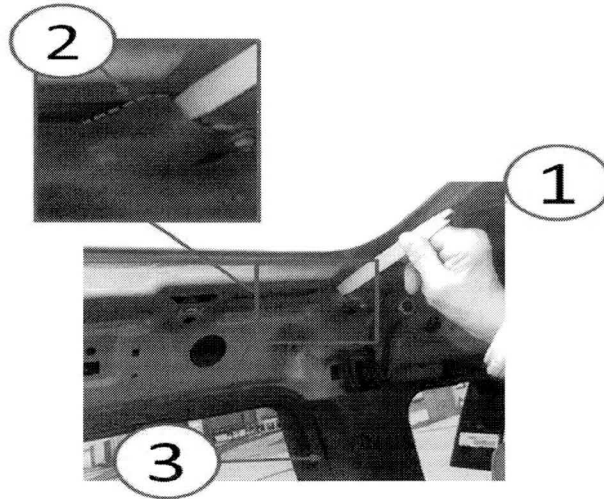

Fig. 4 Dual Pane Sunroof Reinforcement
10. Insert trim stick C-4755 (1) at the location shown in (Fig. 4). Can the metal be easily moved by moving the trim stick left to right?
11. Clean and prepare the sheet metal flange (2) identified in (Fig. 4) for application of structural adhesive per the adhesive manufacturer's recommendations.
12. Apply Lord Fusor 112B structural adhesive or equivalent at the sheet metal flange, location (2) identified by the dashed line in (Fig. 4).